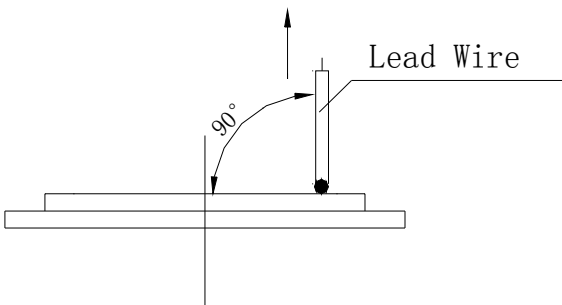

Fig.1 Direction of Lead Wire
b) Wire to be soldered on ceramic at the edge&should be pulled up at 90° The element should be hold on bottom and wire should be pulled up .It should withstand at least for 3000gm force(Fig.1)